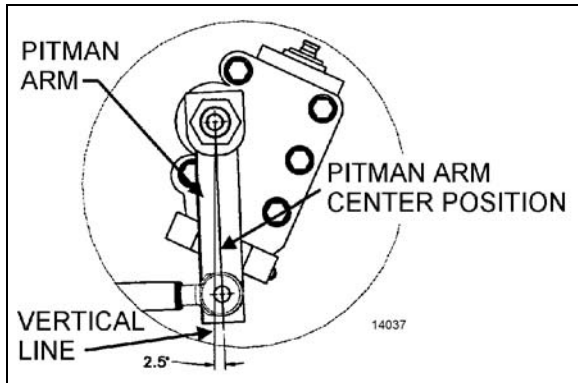
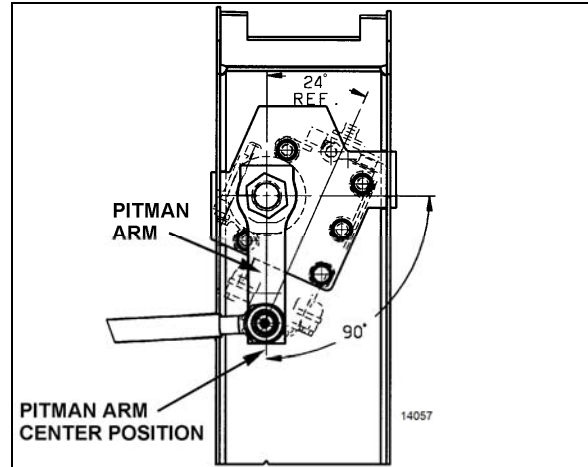

FIGURE 18: I-BEAM FRONT AXLE PITMAN ARM ADJUSTMENT
FIGURE 19: IFS PITMAN ARM ADJUSTMENT
2. Using a protractor, check the angle of the pitman arm (refer to Figure 18 & Figure 19 for details).